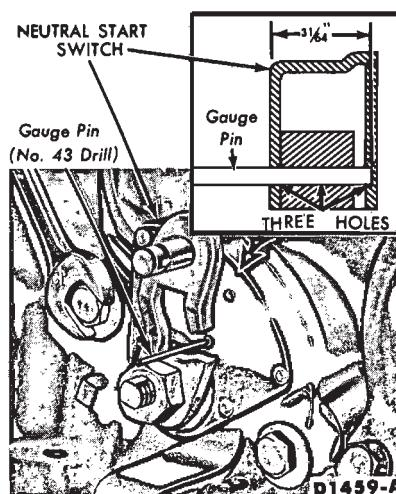

FIG. 13—Neutral Start Switch Adjustment—Console or Floor Shift—Mustang and Cougar
1. With the manual lever properly adjusted, loosen the two switch attaching bolts (Fig. 13).
2. With the transmission manual lever in neutral, rotate the switch and insert the gauge pin (No. 43 drill shank end) into the gauge pin holes of the switch. The gauge pin has to be inserted to a full $31/64$ inch into the three holes of the switch (Fig. 13).
2. Apply penetrating oil to the downshift lever shaft and nut. Remove the transmission downshift outer lever retaining nut and lever (Fig. 13).
6. With the transmission manual lever in neutral, rotate the switch and install gauge pin (No. 43 drill) into the gauge pin hole (Fig. 13).